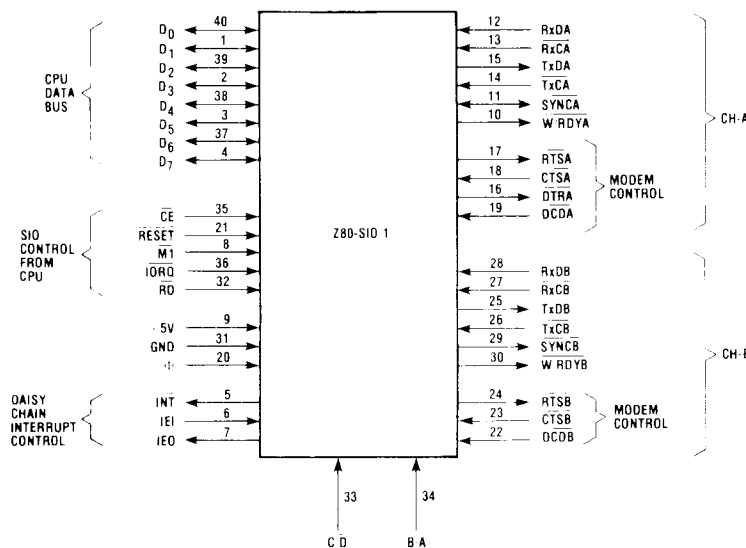

Figure 2. Z80-SIO/1 Pin Configuration
- Z80-SIO/1 sacrifices  $\overline{\text{DTRB}}$  and keeps  $\overline{\text{TxCB}}$ ,  $\overline{\text{RxCB}}$  and  $\overline{\text{SYNCB}}$  (Fig. 2).